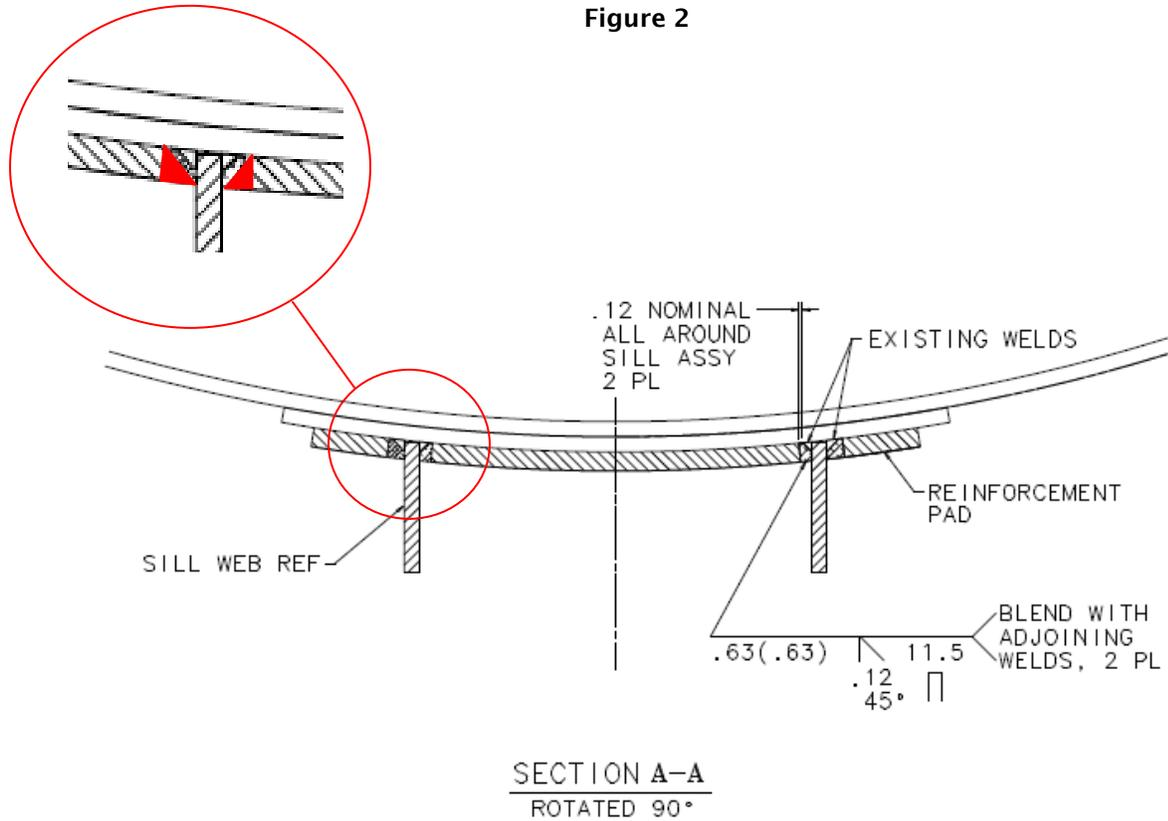

Figure 2
4. Weld the cradle pad reinforcement to the draft sill and cradle pad per Figure 2, using an E-7018 electrode or equivalent. All Welding is to be in accordance with AWS D15.1, and the AAR Manuals of Standards and Recommended Practices Appendix W.